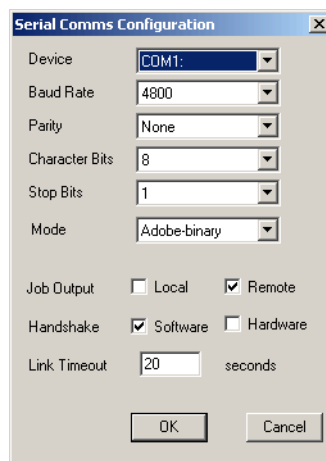

Figure 8.8 Serial Comms Configuration dialog box
3. Click the **Configure** button. The Serial Comms Configuration dialog box appears, as shown in Figure 8.8. Make the settings you wish, and click **OK**.